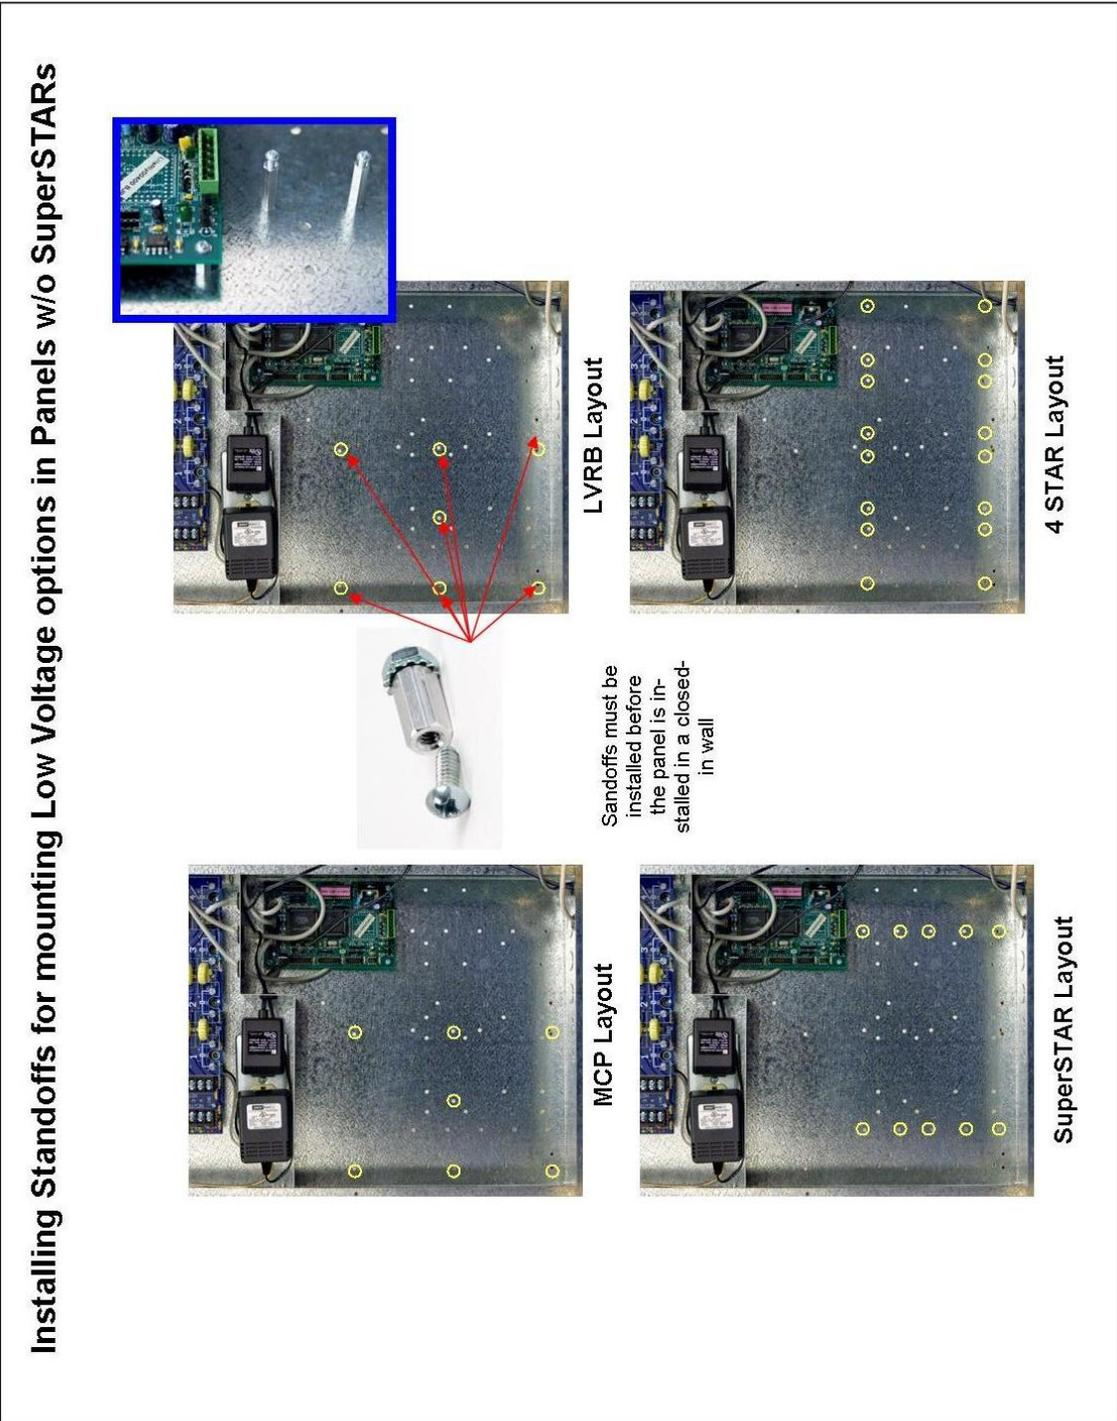

Figure 3
Note: If your installation includes a relay panel without a factory installed SuperSTAR, the low voltage section, located at the bottom of the panel, will accommodate your MCP, (1) LVRB, (1) SuperSTAR, or (4) standard STAR boards. Standoffs to install any of these low voltage options will be included in each of these panels. Refer to the standoff locations in Figure 3 for each specific option. You must have access to the back of the panel to install the standoff, so be sure to install them before the wall is closed in.